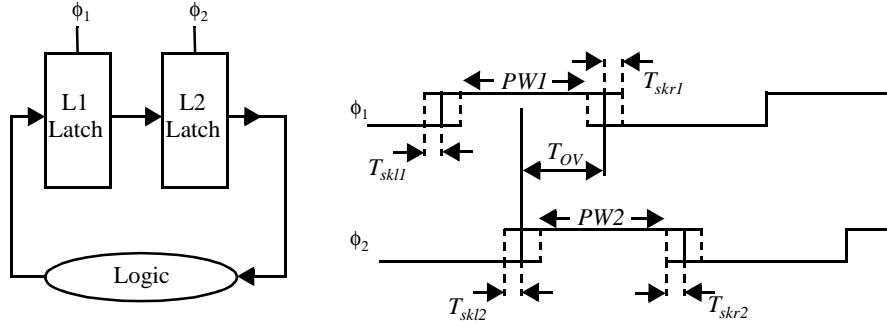

Figure 0.17 Timing constraints
6. For the L1-L2 latch based system from Figure 0.17, with two overlapping clocks derive all the necessary constraints for proper operation of the logic. The latches have setup times  $T_{SU1}$  and  $T_{SU2}$ , data-to-output delays  $T_{D-Q1}$  and  $T_{D-Q2}$ , clock-to-output delays  $T_{CLK-Q1}$  and  $T_{CLK-Q2}$ , and hold times  $T_{H1}$  and  $T_{H2}$ , respectively. Relevant clock parameters are also illustrated in Figure 0.17. The constraints should relate the logic delays, clock period, overlap time  $T_{OV}$ , pulse widths  $PW1$  and  $PW2$  to latch parameters and skews.